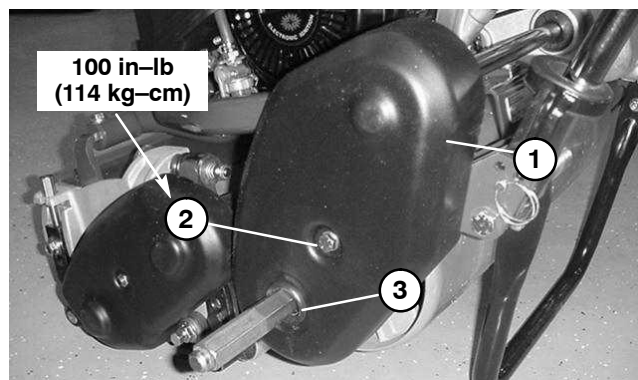
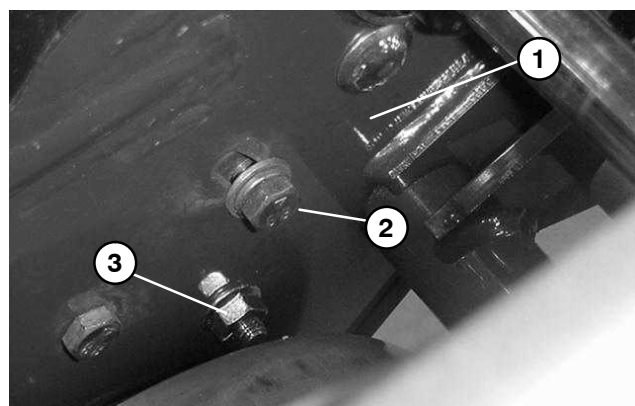

Figure 5
Figure 7
A. Remove cap screw, flat washer, belt cover (Fig. 5), spacer (under cover), and flange nut (Fig. 7) to expose drive belt.
A. On back side of side plate, loosen cap screw that secures the idler bracket to the side plate (Fig. 7).
5. Reinstall belt cover by placing the cover with spacer in position and securing with cap screw, washer, and flange nut. Tighten cap screw to 100 in-lb (114 kg-cm). Check that wheel shaft seal position is correct after cover is installed (Fig. 5).